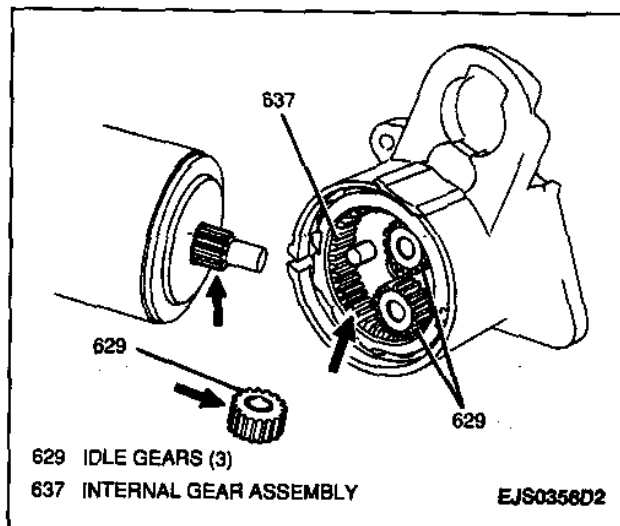

Figure 35—Inspecting Internal Gear Assembly and Idle Gears
6. Internal gear assembly and idle gears for wear, damage or other abnormal conditions; replace as necessary (Figure 35).